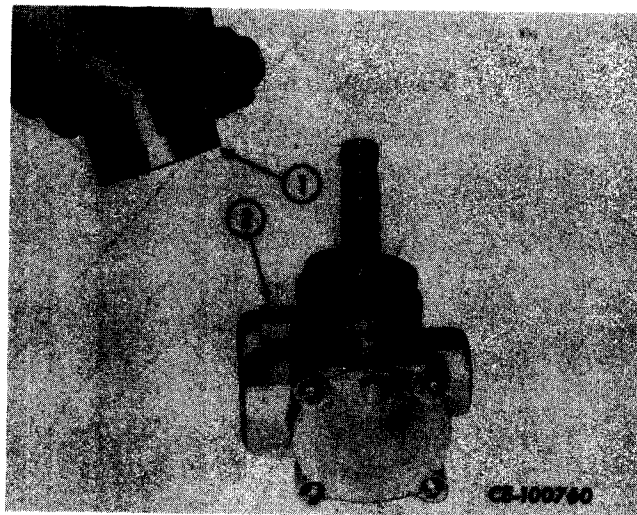

Figure 14-7
Lift off housing and coil (1, Fig. 14-7). Remove tubing elbow (2).